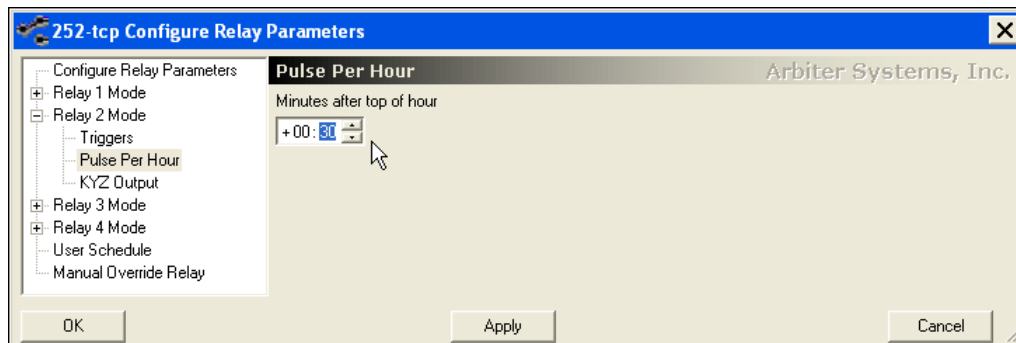

Figure 7.14: Configure Pulse-Per-Hour Mode
2. Now, click the + sign to the left of the desired relay and choose “Pulse Per Hour” in the tree below the relay. On the right panel, adjust the offset if desired. Click OK when finished. See Figure 7.14.